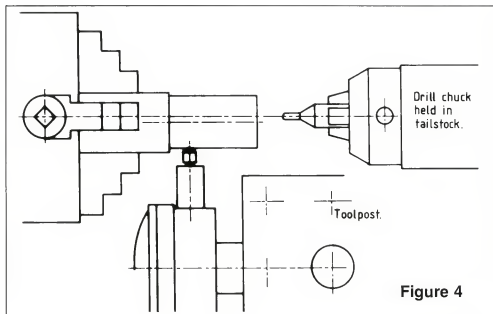

Figure 4
Now refer to **Figure 4** and proceed as follows:
6. At this setting centre drill the end of the work as shown in Figure 4.